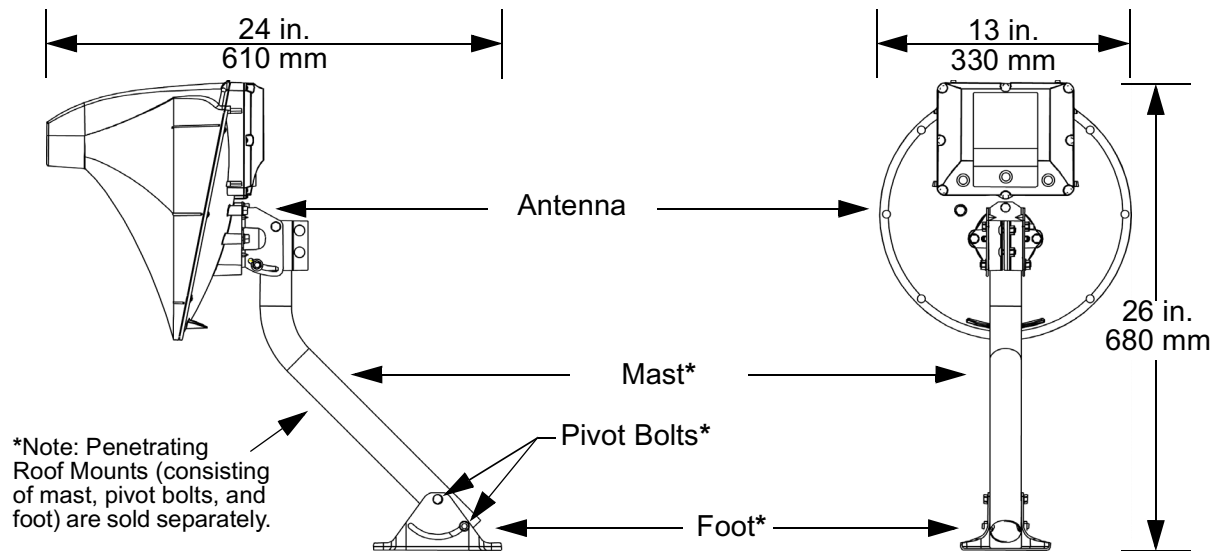

Figure 1. RTU Dimensions
1. Position the mast (see Figure 1) so the pivot bolt holes align with the hole and slot on the foot.